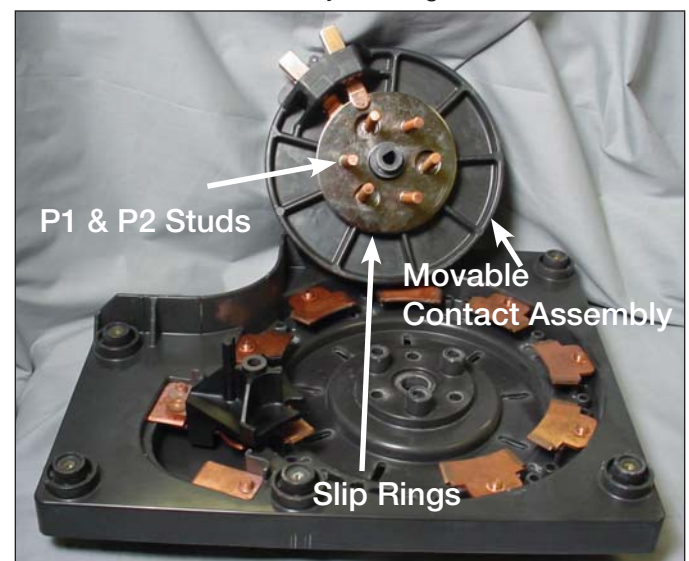

Figure 19.
5. Facing the Main movable contact and Geneva gear assembly, pull forward removing the main contact assembly and P1 and P2 slip ring assemblies for the contact board assembly. See Figure 19.